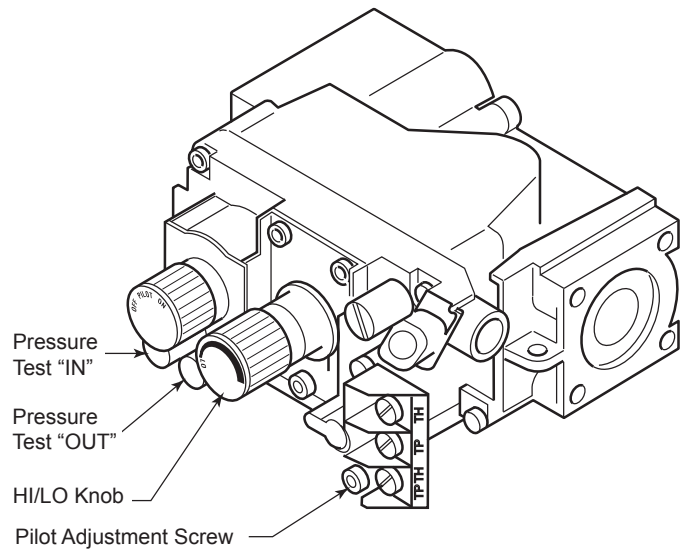

Figure 47 - Gas Pressure Check at Gas Valve
5. To check gas pressures at valve, turn captured screw counter clockwise 2 or 3 turns and then place tubing to pressure gauge over test point. Turn unit to high. *Figure 47* After taking pressure reading, be sure and turn captured screw clockwise firmly to reseal. Do not over torque. Check test points for gas leaks.